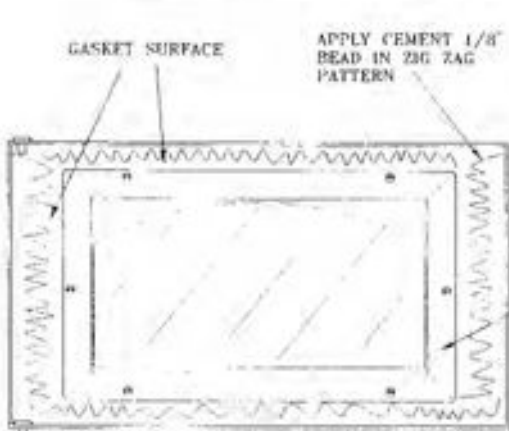

Figure 18
2. Apply a thin bead of stove cement (about 1/8" thick) around the gasket surface of the door, in a zig-zag pattern (see Figure 18). The bead must remain at least this thick to permit it to absorb into the rope seal. Do not spread the bead of glue out.